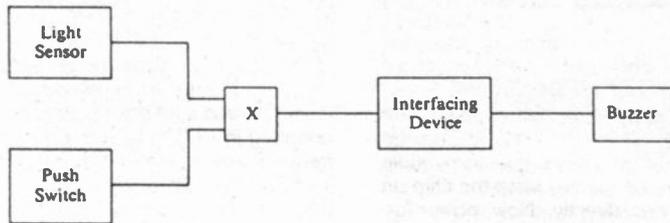

Fig. 1
3. A person who works at night and sleeps during the day has made a door buzzer which will only sound when it is dark. Fig. 1 shows its block diagram.